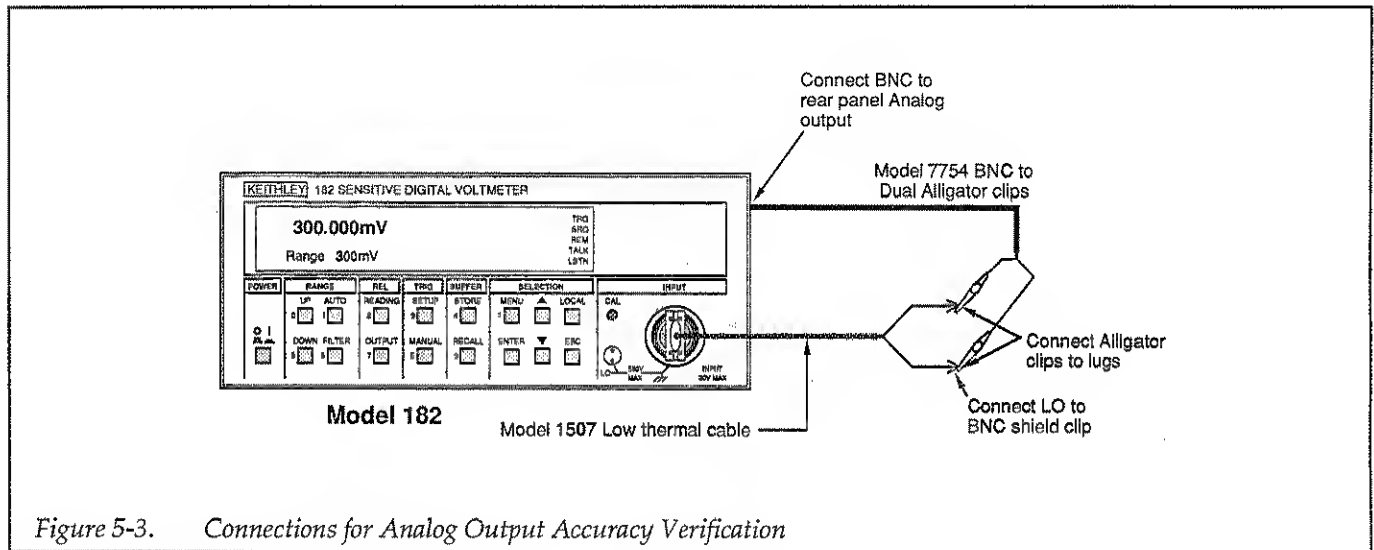

Figure 5-3. Connections for Analog Output Accuracy Verification
4. Connect the Model 182 ANALOG OUTPUT jack to the INPUT jack, as shown in Figure 5-3. The alligator clips and lugs from the two connecting cables can be simply clipped together. Be sure to connect INPUT LO to the outer shell of the ANALOG OUTPUT jack.